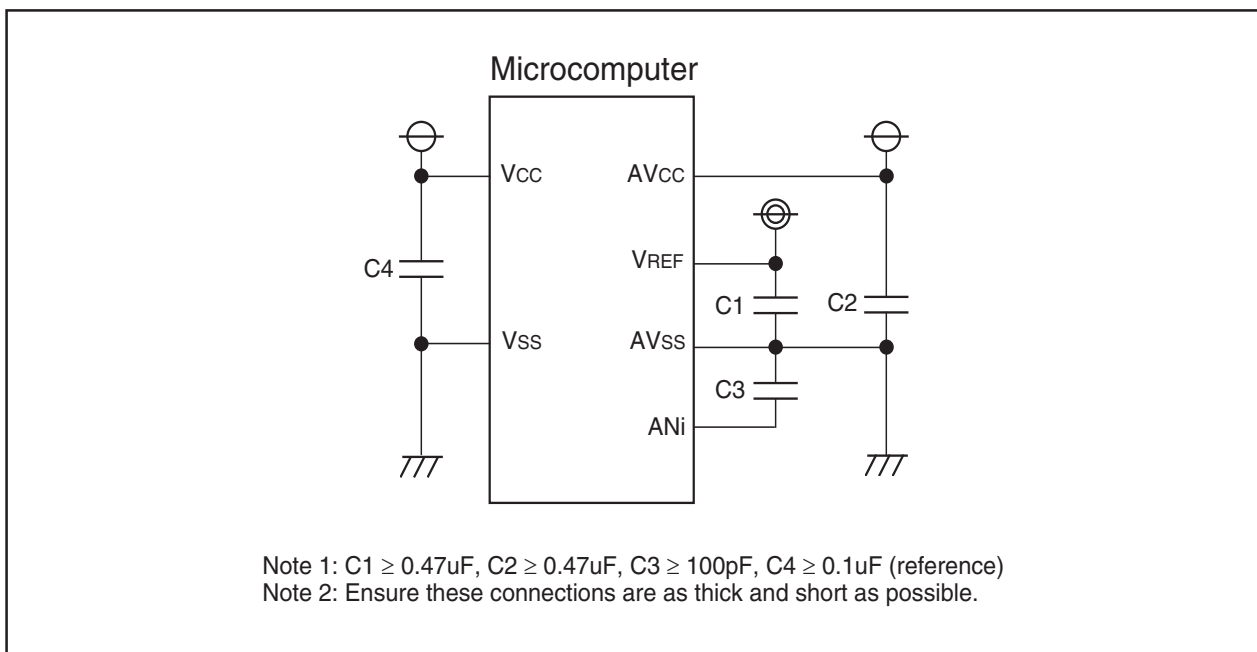

Figure 1.16.9. Example connection of VCC, VSS, AVCC, AVSS, VREF and ANi
- (1) Set the port direction bits corresponding to the following pins to input: those P10 pins to be used for analog input, plus external trigger input pin (P15).
- (2) In using a key-input interrupt, none of 4 pins (AN4 through AN7) can be used as an A-D conversion port (if the A-D input voltage goes to "L" level, a key-input interrupt occurs).
- (3) Insert the capacitor between AVCC and AVSS, between VREF and AVSS, and between the analog input pin (ANi) and AVSS, to prevent a malfunction or program runaway, and to reduce conversion error, due to noise. Figure 1.16.9 is an example connection of each pin.